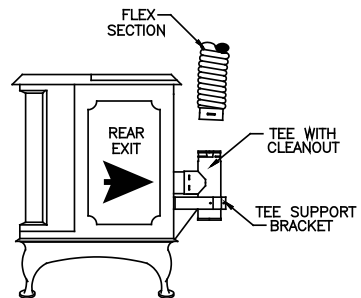

Figure 22
9. If a Tee or Tee Adapter is necessary to make the connection, as shown in **(Figure 22)**, the Tee has a removable Clean out Adapter on its base to enable cleaning. The Tee Support Bracket to hold the Tee to the rear of the appliance is mandatory. If it is desired to mount